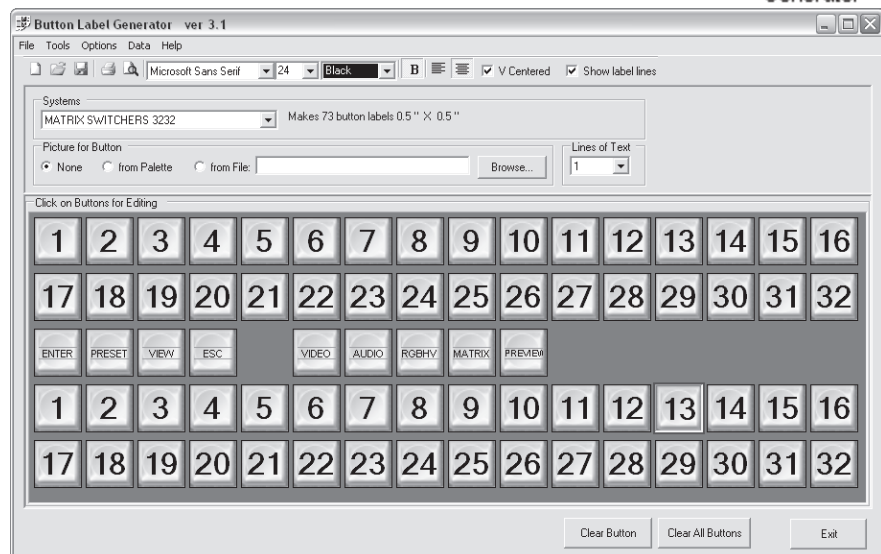

Figure 5-18 — Extron’s Button-Label Generator window
1. To run the Button-Label Generator program, double-click on the Button-Label Generator icon (shown at right) in the Extron Electronics group or folder, and click OK when prompted. The Button-Label Generator window appears (figure 5-18).